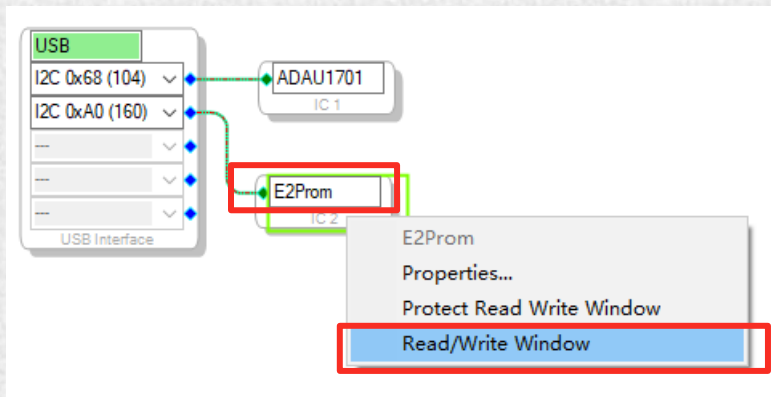
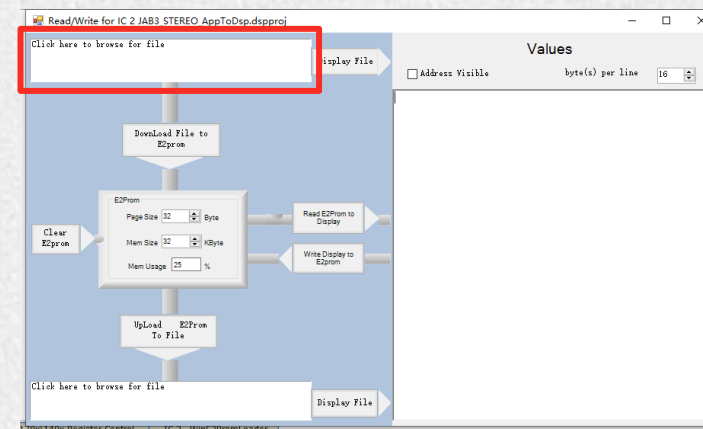

Figure 6
Figure 7
1. Right click the “E2Prom” (see Figure 6) and click ‘Read/Write Window’. You will see the following interface (Figure 7).